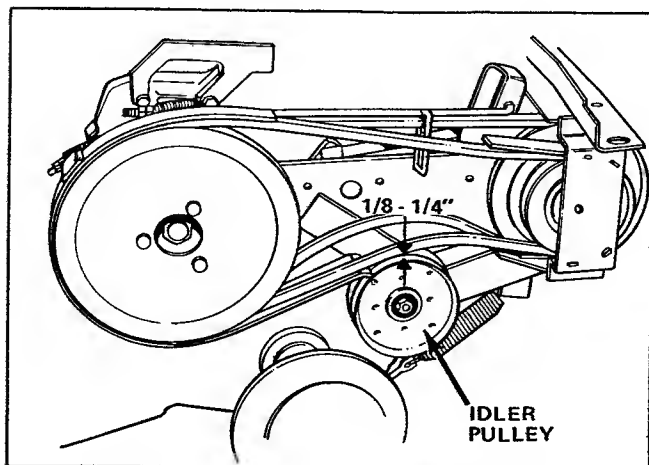

Figure 22. Idler Tension Adjustment
1. There should be 1/8-1/4 inch clearance between the outside belt and the top edge of the idler pulley, when the belt is resting on the front and rear belt retainers. (See figure 22).